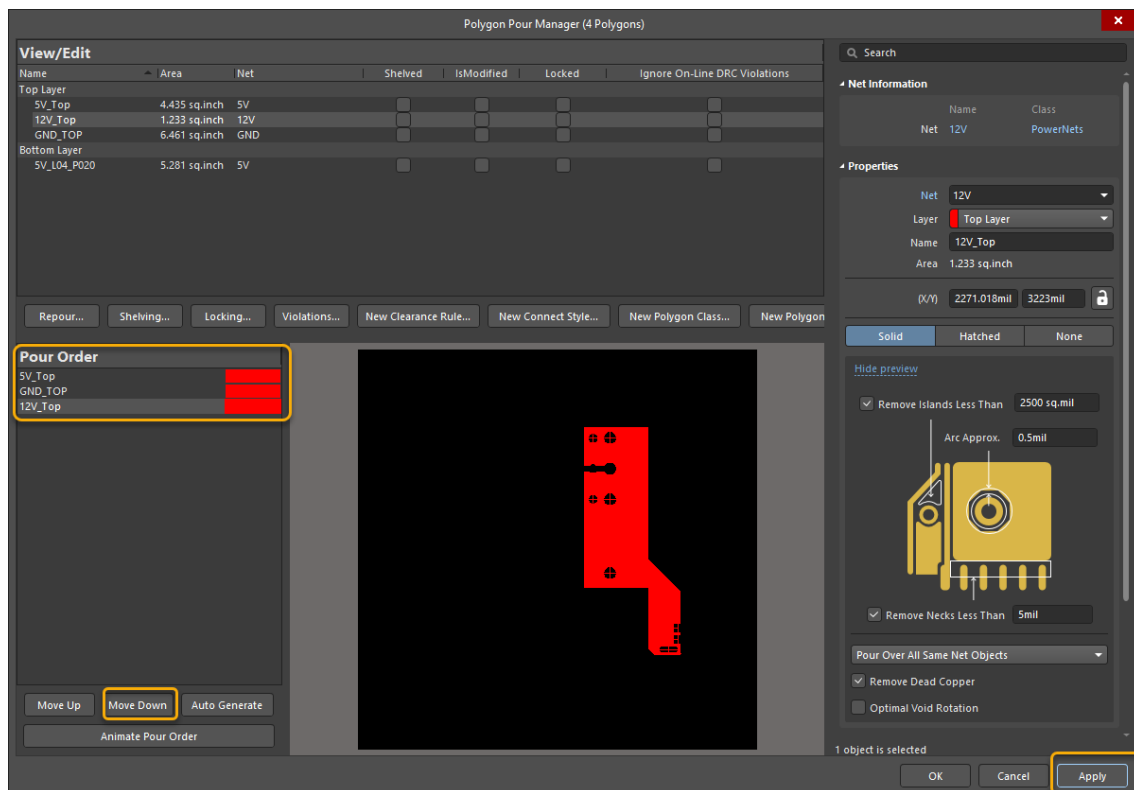

Figure 11. Polygon Pour Manager
36. Within the *Pour Order* pane, we can change the pour order of the polygons. Select the 12V_Top polygon and click **Move Down** until it is moved to the bottom of the *Pour Order* list as shown in Figure 11.